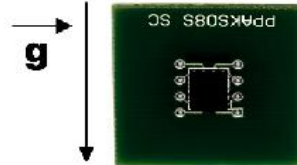

Figure 34.
- **-Z gravity** for an upside down PCB with the component on the bottom side (see the interactive picture on the right side in Figure 34).